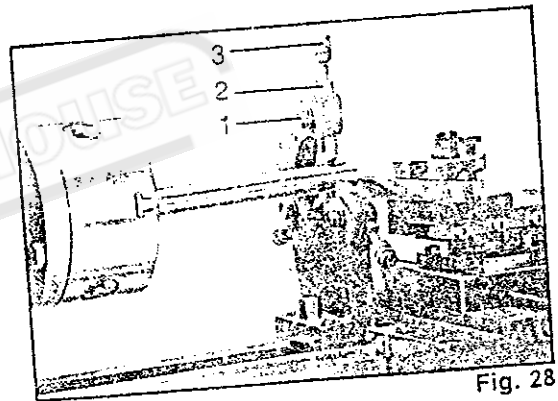

Fig. 28
1. Loosen three hex nuts (1, Fig. 28)
2. Loosen knurled screw (3, Fig. 28) and open the sliding fingers (2, Fig. 28) until the steady rest can be moved with its fingers around the workpiece.
3. Tighten knurled screws so that fingers are snug but not tight against the workpiece. Tighten three nuts (1, Fig. 28). Lubricate the sliding points with machine oil.